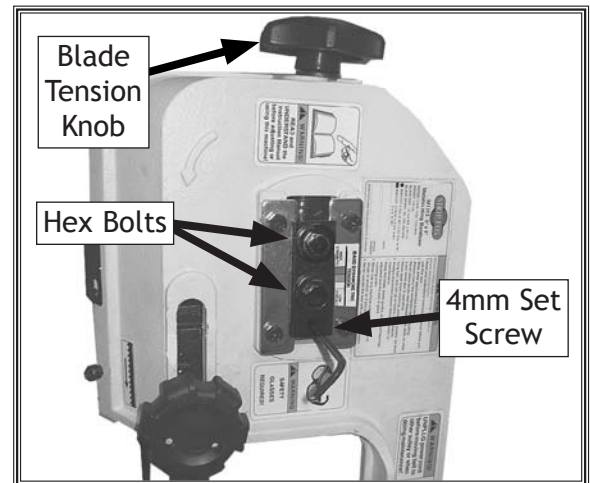

Figure 34. Tracking adjustment controls.
5. Loosen, but do not remove the lower cap screw in the blade wheel tilting mechanism (**Figure 34**).
6. Adjust the tracking set screw with a 4mm hex wrench, as shown in **Figure 34**, then tighten the cap screw loosened in **Step 5**.